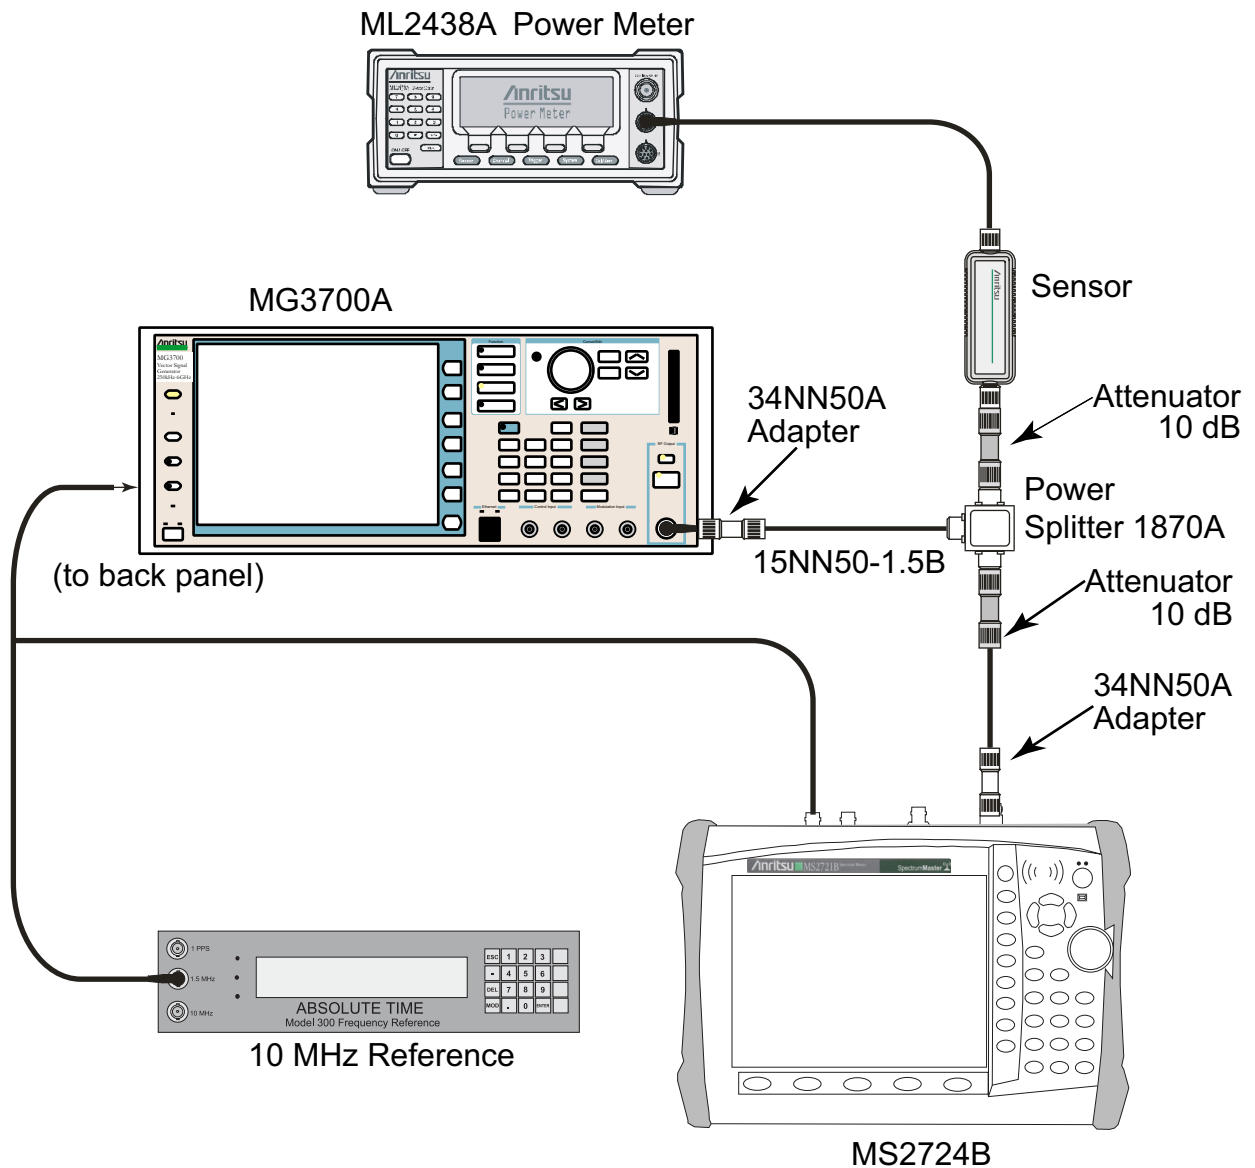

Figure 2-26. Mobile WiMAX Signal Analyzer – Test Setup
4. Connect all of the test equipment as shown in Figure 2-26